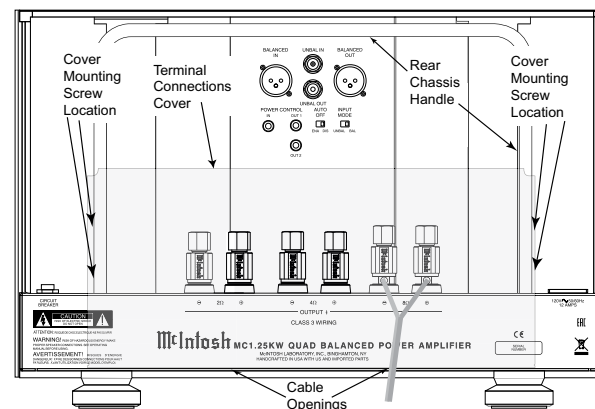

Figure 6 (Outside USA and Canada)
13. Locate the Terminal Connections Cover from the inside of the MC1.25KW shipping carton. Insert the just prepared Loudspeaker hookup cables thru the cover opening on the right side. Refer to figure 6.
Note: The illustration in figure 6 is connections for 8Ω (ohms) Loudspeakers.
15. Attach the Terminal Connections Cover to the MC1.25KW Rear Panel with the previously removed Screws. Refer to figure 6.